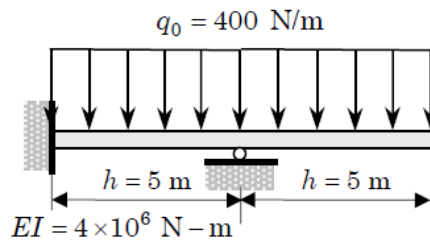

Figure Q4
- Q.4. Determine the following for the beam shown in the **Figure Q4** using **two 2-noded Euler-Bernoulli's beam elements**.